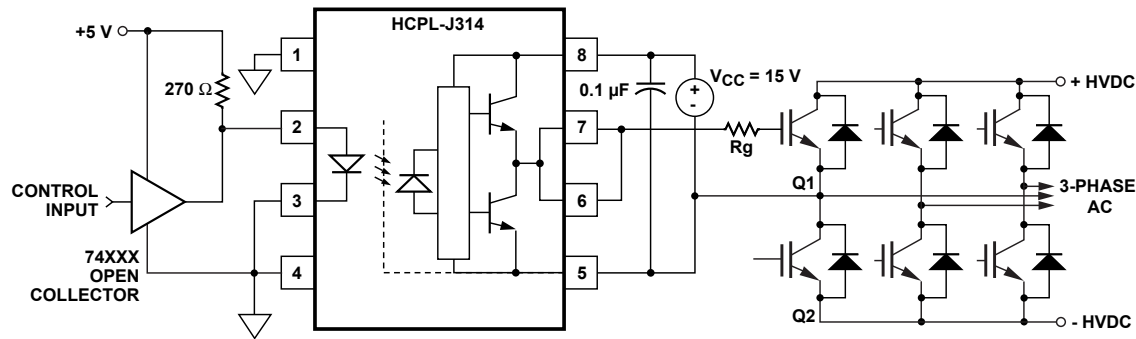
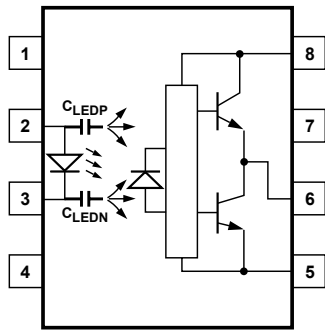
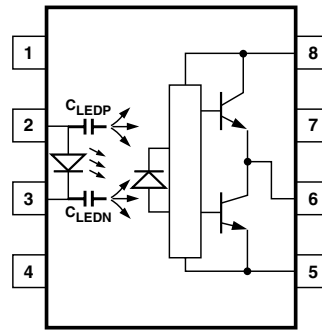
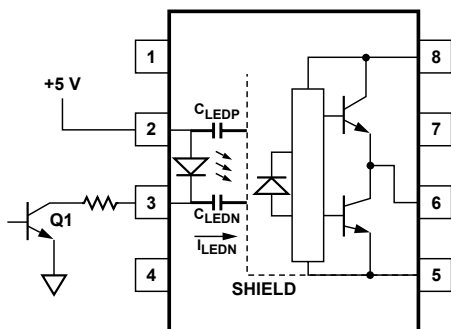

Figure 19. Recommended LED drive and application circuit for HCPL-J314.
Figure 21. Optocoupler input to output capacitance model for unshielded optocouplers.
Figure 22. Optocoupler input to output capacitance model for shielded optocouplers.
Figure 24. Not recommended open collector drive circuit.
To keep the IGBT firmly off, the HCPL-J314 has a very low maximum  $V_{OL}$  specification of 1.0 V. Minimizing  $R_g$  and the lead inductance from the HCPL-J314 to the IGBT gate and emitter (possibly by mounting the HCPL-J314 on a small PC board directly above the IGBT) can eliminate the need for negative IGBT gate drive in many applications as shown in Figure 19. Care should be taken with such a PC board design to avoid routing the IGBT collector or
**Step 1:** Calculate Rg minimum from the IOL peak specification. The IGBT and Rg in Figure 19 can be analyzed as a simple RC circuit with a voltage supplied by the HCPL-J314.
where  $K_{ICC} \cdot Q_g \cdot f$  is the increase in ICC due to switching and KICC is a constant of 0.001 mA/(nC·kHz). For the circuit in Figure 19 with IF (worst case) = 10 mA, Rg = 32 Ω, Max Duty Cycle = 80%, Qg = 100 nC, f = 20 kHz and TAMAX = 85°C:
Without a detector shield, the dominant cause of optocoupler CMR failure is capacitive coupling from the input side of the optocoupler, through the package, to the detector IC as shown in Figure 21. The HCPL-J314 improves CMR performance by using a detector IC with an optically transparent Faraday shield, which diverts the capacitively coupled current away from the sensitive IC circuitry. However, this shield does not eliminate the capacitive coupling between the LED and optocoupler pins 5-8 as shown in Figure 22. This capacitive coupling causes perturbations in the LED current during common mode transients and becomes the major source of CMR failures for a shielded optocoupler. The main design objective of a high CMR LED drive circuit becomes keeping the LED in the proper state (on or off) during common mode transients. For example, the recommended application circuit (Figure 19), can achieve 10 kV/μs CMR while minimizing component complexity.
The open collector drive circuit, shown in Figure 24, can not keep the LED off during a  $+dV_{CM}/dt$  transient, since all the current flowing through  $C_{LEDN}$  must be supplied by the LED, and it is not recommended for applications requiring ultra high CMR1 performance. The alternative drive circuit which like the recommended application circuit (Figure 19), does achieve ultra high CMR performance by shunting the LED in the off state.